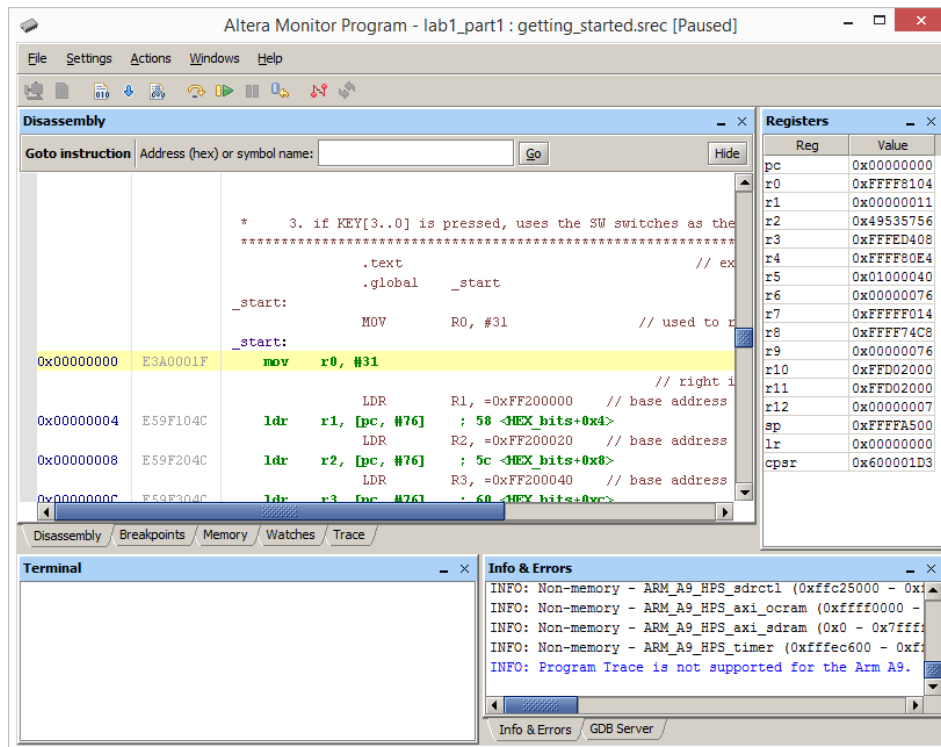

Figure 8: The monitor window showing the loaded sample program.
9. Having downloaded the DE1-SoC Computer into the Cyclone V SoC chip on the DE1-SoC board, we can now load and run the sample program. In the main Monitor Program window, shown in Figure 8, select **Actions > Compile & Load** to assemble the program and load it into the FPGA chip. Figure 8 shows the Monitor Program window after the sample program has been loaded.